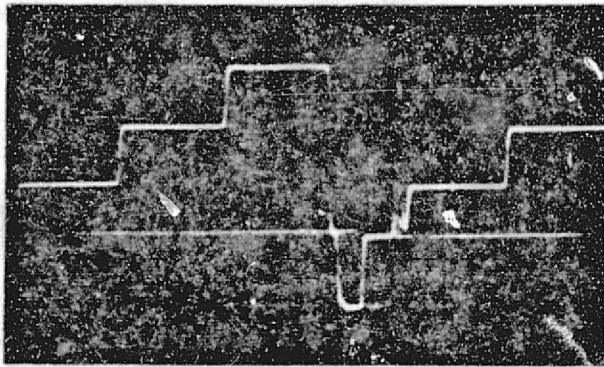

Figure 5-8. A2TJ1 V-Clamp
5.3.1.2.1 Video Clamp Level Adjustment (refer to Figure 5-8)